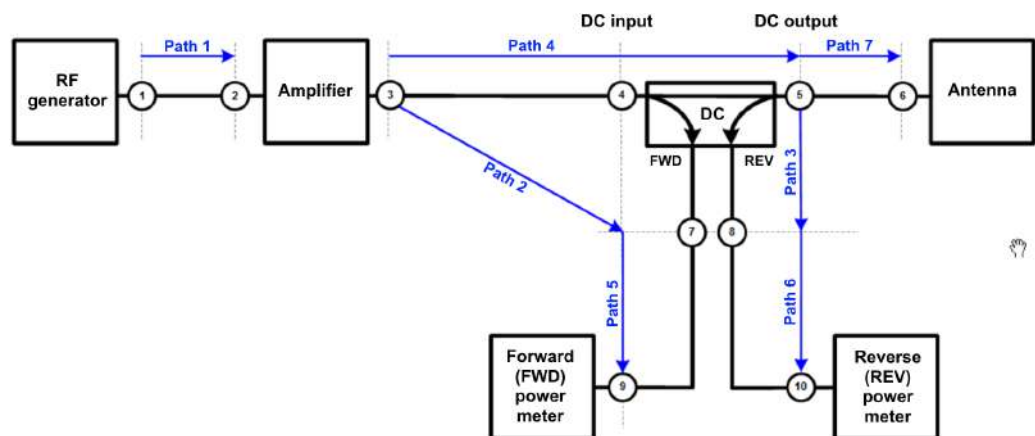

Figure 5-4: Devices and signal paths, with DC close to antenna
Follow exactly Figure 5-4 when you measure the paths, or when you specify the paths' attenuations by values or tables.
To do so, you can specify the paths in the device list or in the properties dialog of the devices via the clickable icons in the hardware setup. Note that your changes in the properties dialogs change the devices' properties globally in the device list. The legend of Figure 5-4 tells you for every path where to specify its attenuation:
- Several EMS tests that simulate on-board transmitters (like FORD RI115) require measuring the net power at the antenna input. Because this measurement requires mounting the DC directly at the antenna input, R&S ELEKTRA must apply the modified paths as in Figure 5-4.